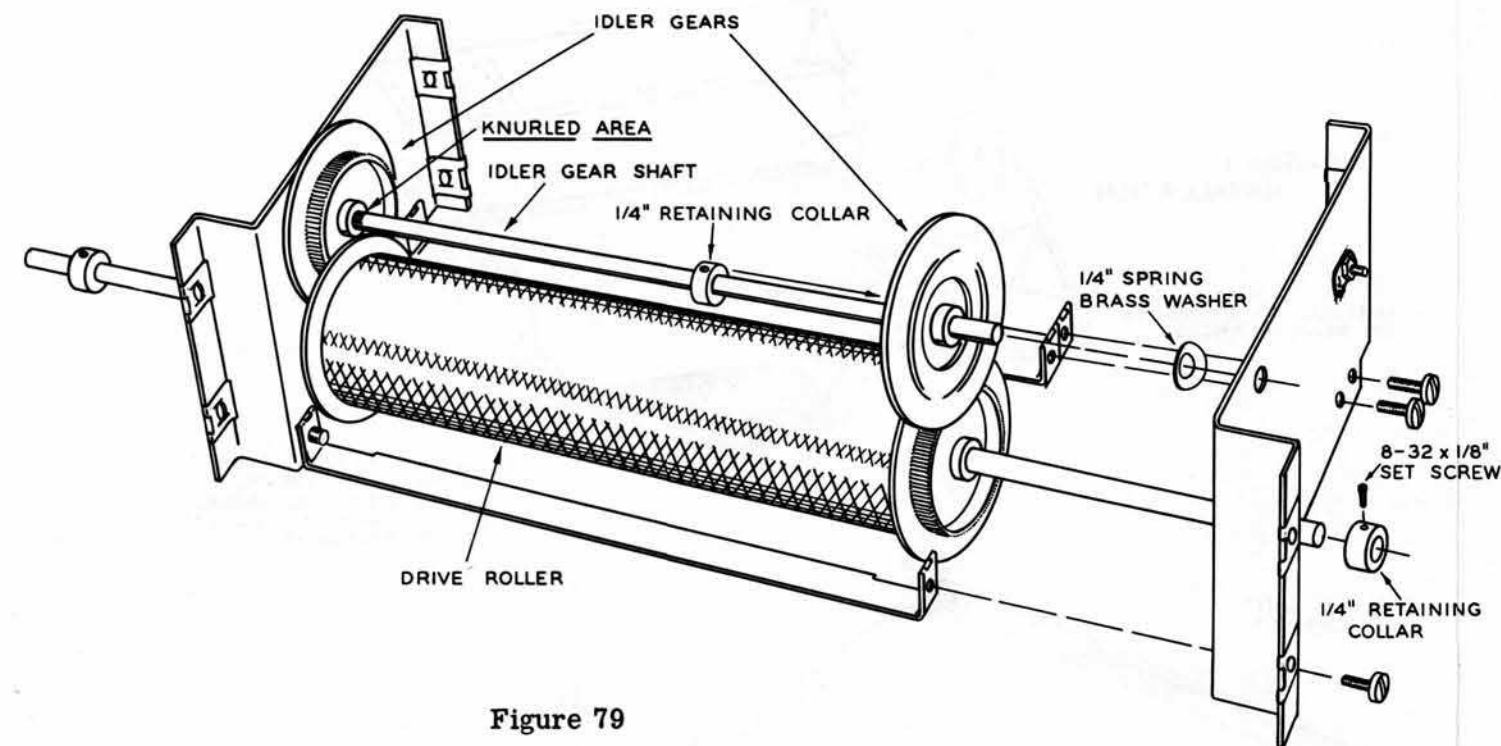

Figure 79
- () See Figure 79 and remove the right hand roll chart bracket from the assembly and install the drive roller and idler gears. Place a 1/4" retaining collar between the idler gears and a spring brass washer on each end between gear and bracket.